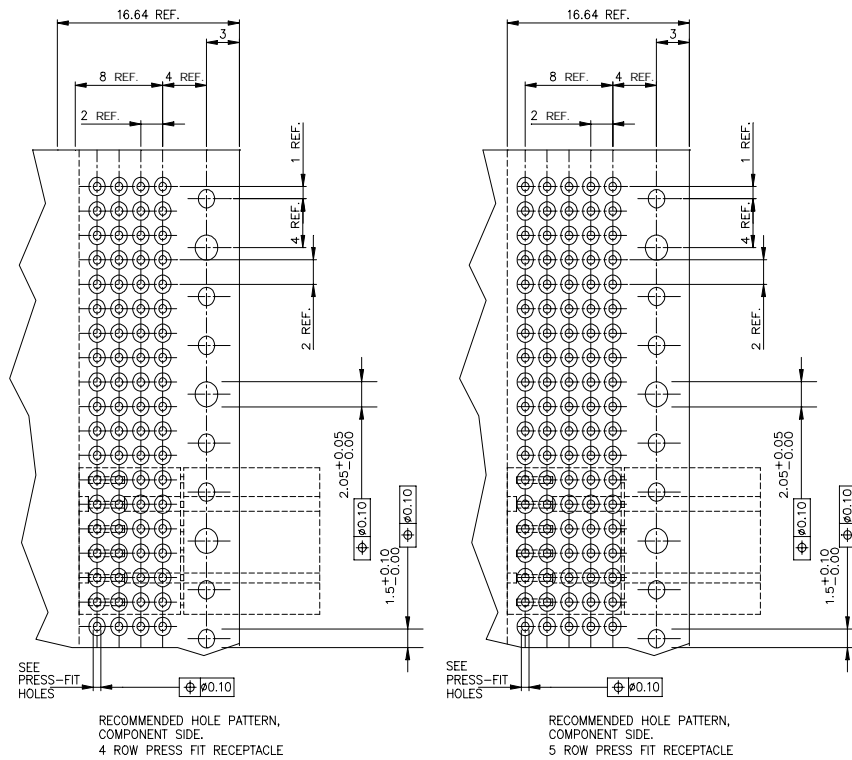

Figure 6 - Required board layout for right angle solder to board signal receptacle. (All dimensions in mm)
- Refer to Figure 6 for PCB layout.